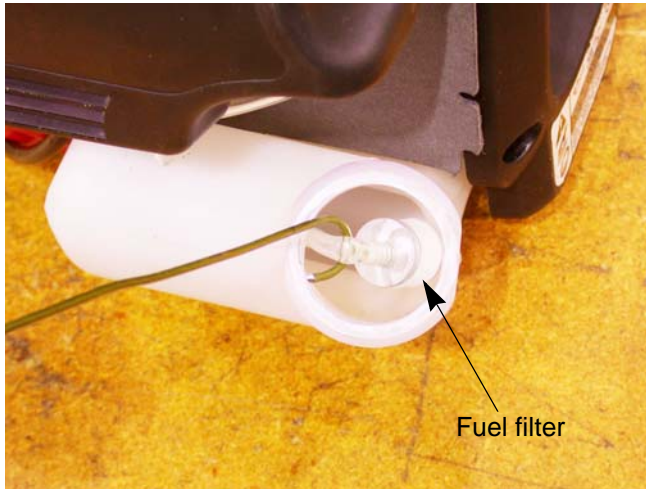

Figure 2.11
3. Stick the hook end of the wire into the fuel tank and fish out the fuel filter. See Figure 2.11.